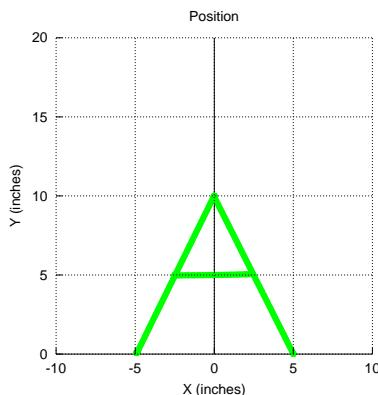

Figure B.19: A plot generated by the program `recordxy3.ch`.
1. Based on the program `traceon3.ch` developed in Exercise 1 on page 291, write a program `recordxy3.ch` to record and plot the traced trajectory with the letter 'A' as shown in Figure B.19.